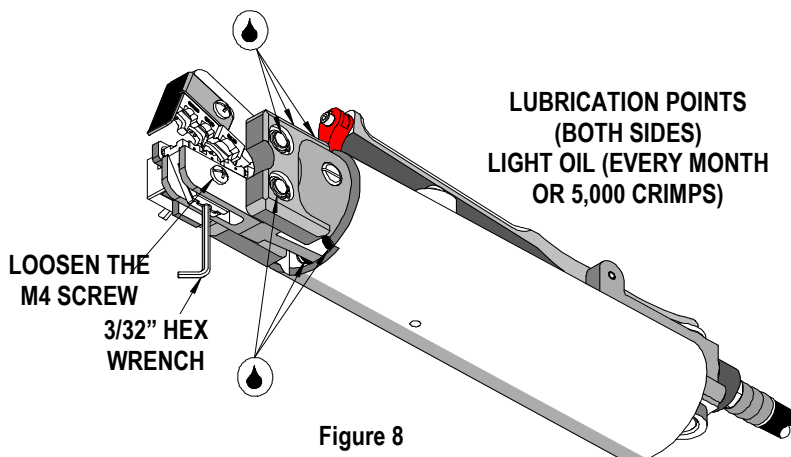

Figure 8
3. Make certain all pins; pivot points and bearing surfaces are protected with a thin coat of high quality machine oil. Do not oil excessively. This tool needs cleaning and lubrication for a maximum service life of trouble-free crimping. A light oil, such as 30 weight automotive oil used at the oil points shown in Figure 8, every 5,000 crimps or monthly will significantly enhance the tool life and ensure a stable calibration.